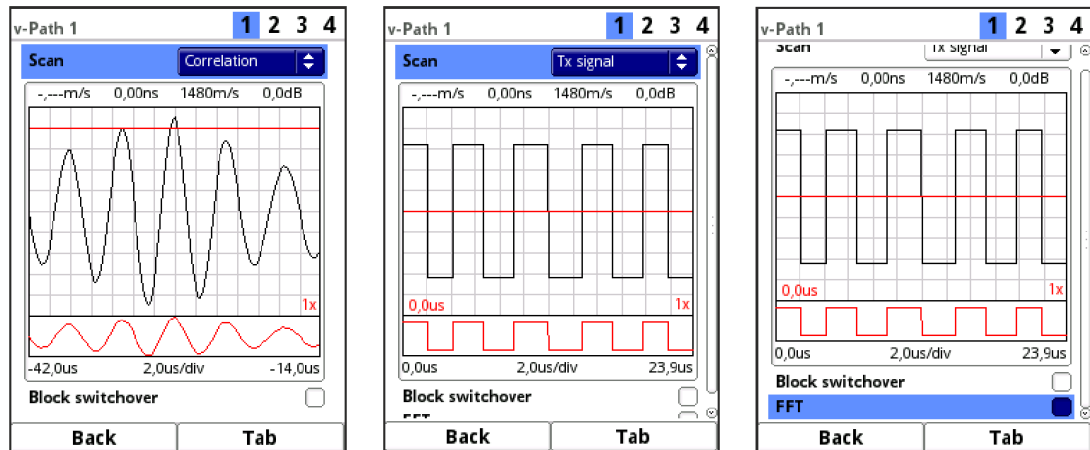

Fig. 45-4 Correlation / Transmission Signal
- **>Correlation<** (Fig. 45-4)
- **>Transmission Signal<** (Fig. 45-4)